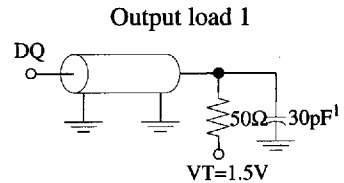

Fig. 1
| Output load | Fig. 1 & 2 |
2. Test conditions as specified with output loading as shown in Fig. 1 unless otherwise noted